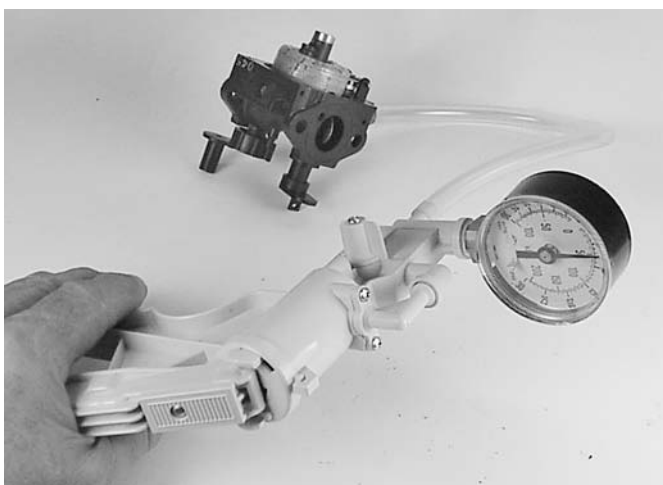

Fig. 51
- Pressure check inlet needle and seat. Attach pump (#19493) with pressure gauge to fuel inlet fitting on carburetor (Figure 51). With carburetor upside down, raise float and then lower to its
normal position. Apply pump pressure to **5 psi (34.5kp)**. Needle and seat should hold this pressure for 10 to 15 seconds (Figure 51). If it does not hold, wet the needle and seat with a drop of mineral spirits and repeat the test. If it still fails again, replace needle and seat.